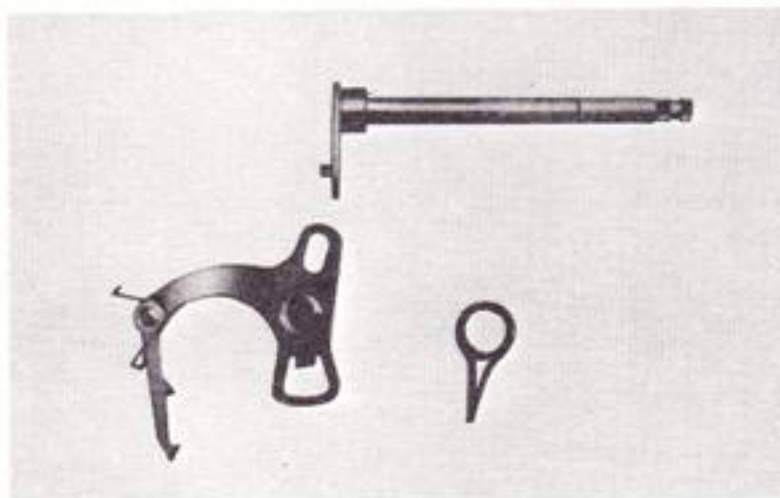

Fig. 4-12-4
**B. Checking the gear shift parts (Fig. 4-12-4)**